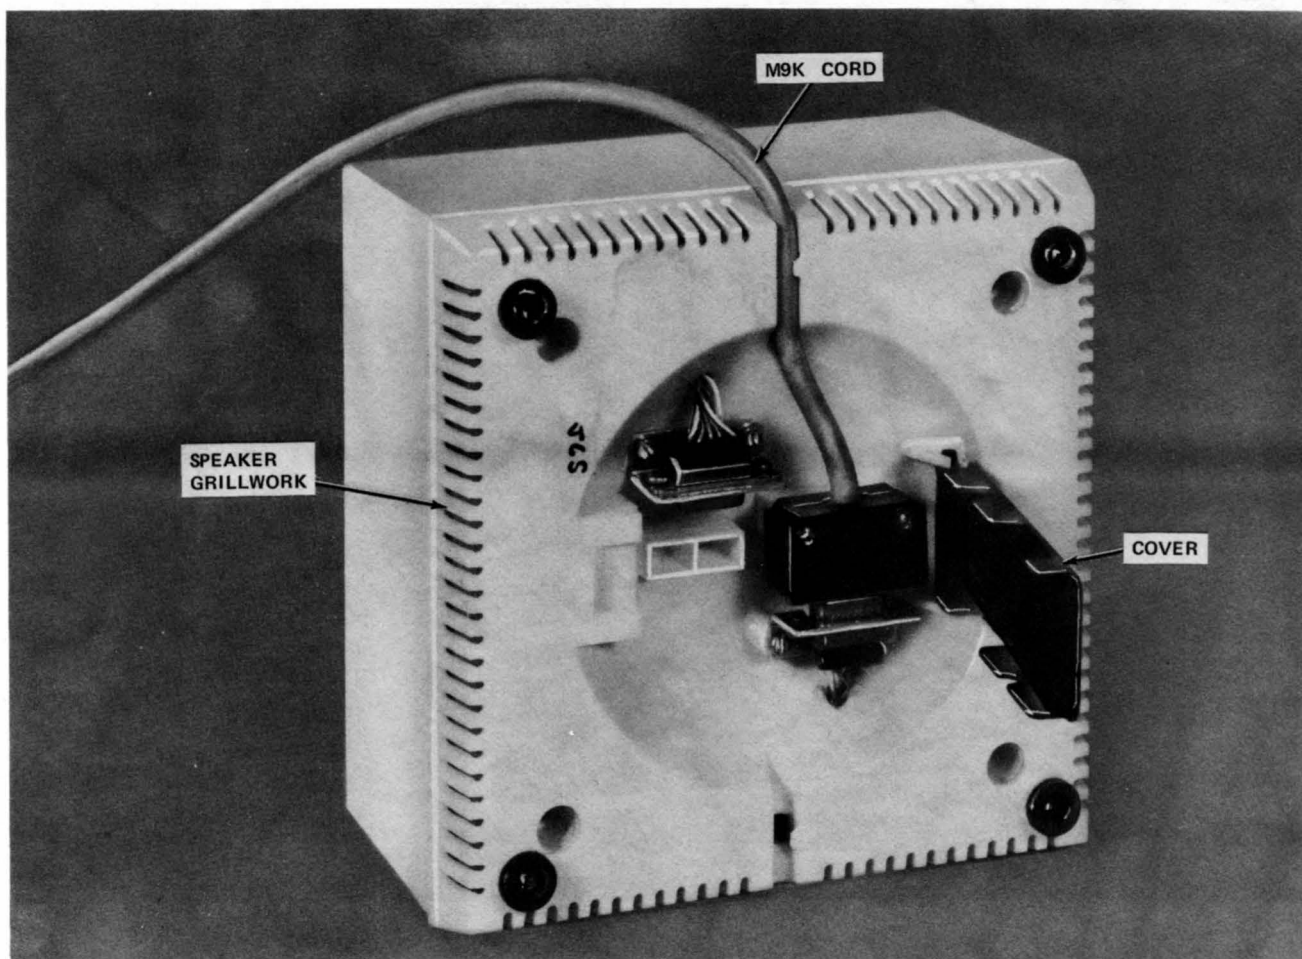

Fig. 9—Bottom of 114A Loudspeaker Set With Cover Open and M9K Cord Connected
- (9) If the 114A loudspeaker set is used, proceed as follows:
- (a) Plug the other end of the M9K cord into the bottom of the optional 114A loudspeaker set (Fig. 9).